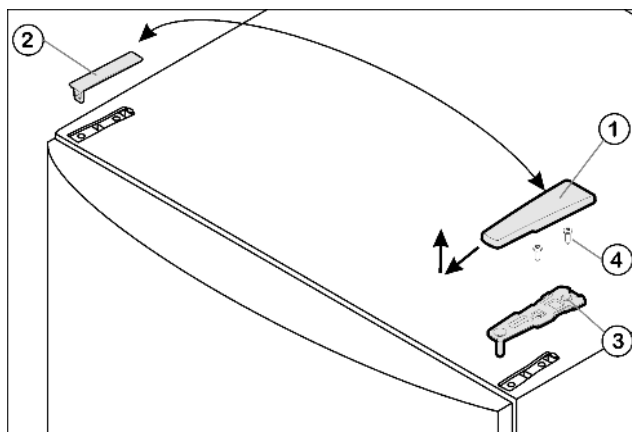

Fig. 4
- ▶ Pull off the cover Fig. 4 (1) forwards and upwards.
- ▶ Lift off the cover Fig. 4 (2).
- ▶ Unscrew the upper turn hinge Fig. 4 (3)(2x Torx® 25) Fig. 4 (4) and lift it off.
- Insert the upper turn hinge *Fig. 4 (3)* in the door on the new hinge side.
- Screw the upper turn hinge **firmly** into place (**with 4 Nm**) (2x Torx® 25) *Fig. 4 (4)*. Possibly make preliminary holes with a bradawl or use a cordless screwdriver.
- Apply the cover *Fig. 4 (1)* and cover *Fig. 4 (2)* to the opposite side from the outside and snap them into place.